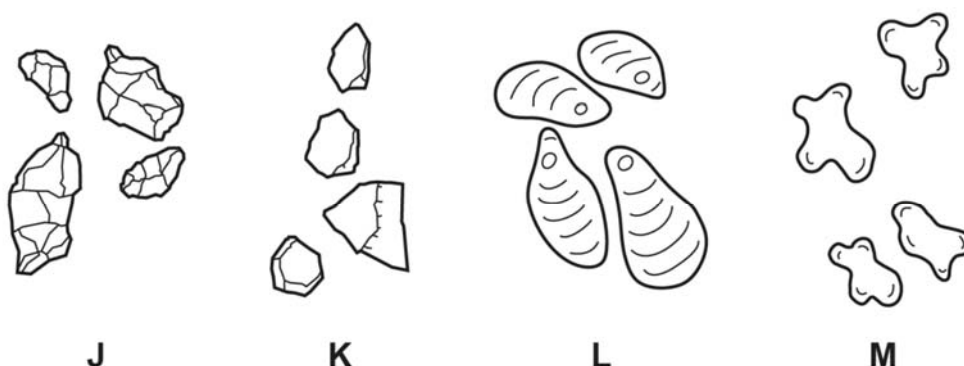

Fig. 3.1
Fig. 3.1 shows some different types of starch grains and patterns on the surface of the starch grains.
- (i) Use the diagrams in Fig. 3.1 to identify which of the starch grains, **J**, **K**, **L** or **M**, matches most closely the starch grains drawn in (a).